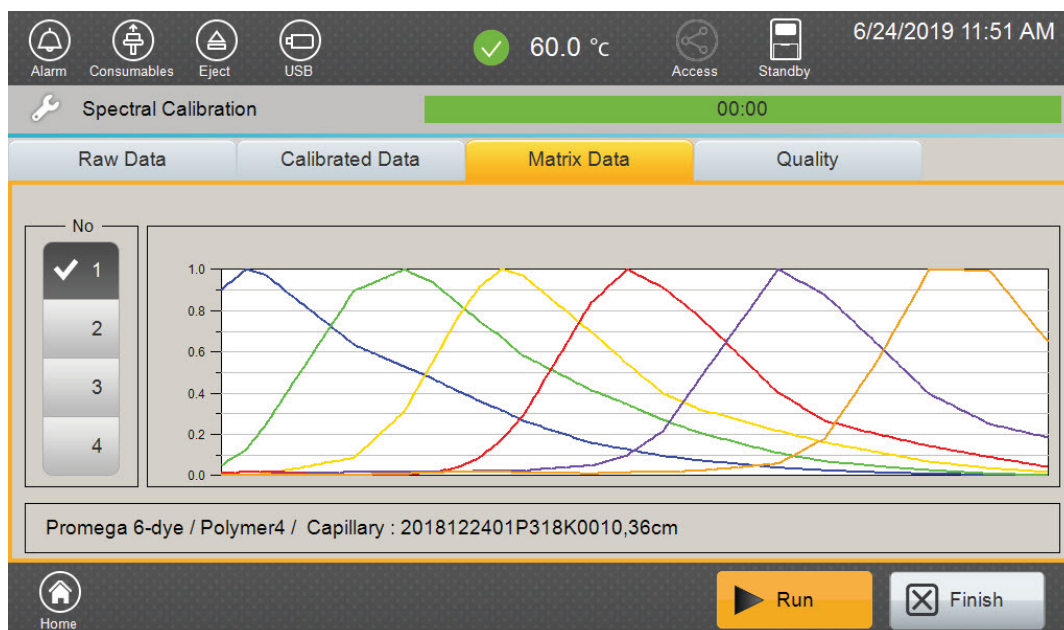

Figure 12. Spectral Calibration 'Matrix Data Tab' screen.
3. The 'Matrix Data' tab can be used to view emission spectra for each capillary (Figure 12).